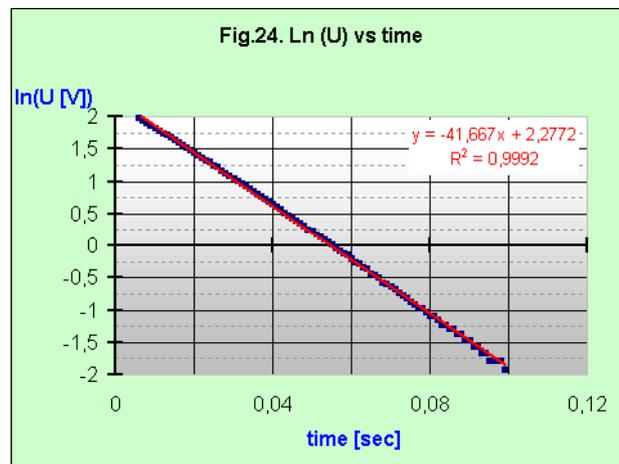

Fig.24
2. The new scattered plot of $\ln(U)$ vs time should be defined – Fig.24.
3. Ask for display of the trend line. Choose linear regression. The equation of the linear approximation is shown in the plot area -Fig.24.
4. Now you can compare data points and regression line on one plot (Fig.24).